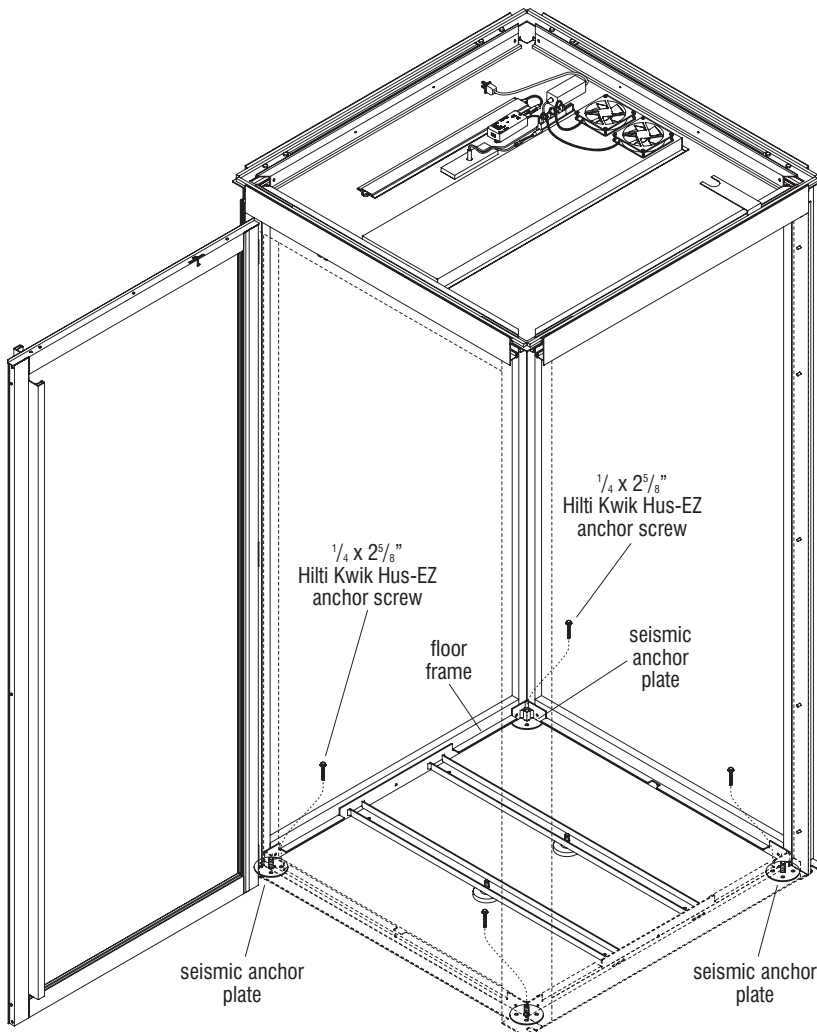

Figure 11
2. Orient each seismic anchor plate so there is clear access to at least one mounting hole on each plate from inside the pod as illustrated in Figure 11.